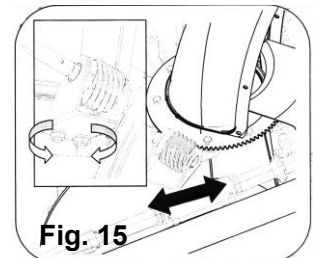

Fig. 15
1. Loosen the two nuts which secure the chute brackets and reposition is slightly, See Figure 15.
2. Retightening the nuts. See Figure 15.